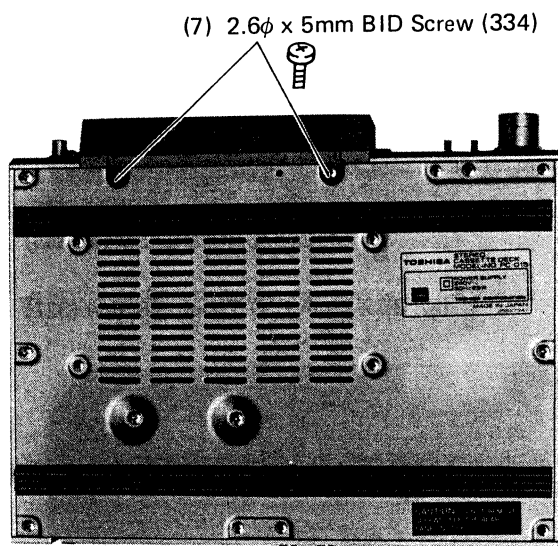

Figure 20.
2. Remove two screws (7) from the bottom plate, as shown in figure 20 and terminals of the recording playback and erase heads can be checked.